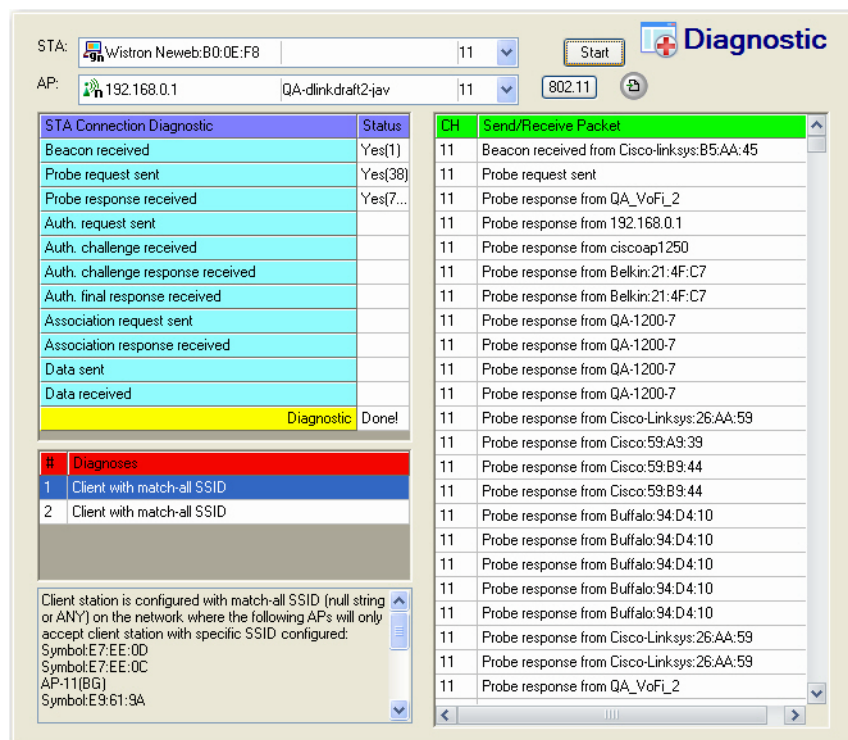

Figure 17-2: A completed diagnostic test
- 4) Click  (**Start**). The Diagnostic tool screen shows the progress in the association process with the AP. See Figure 17-2.